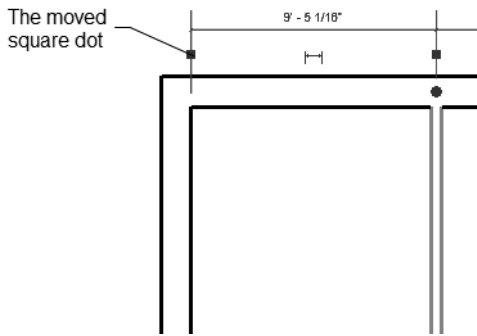
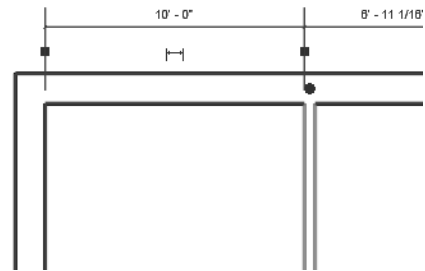

Figure 3-59 The square dot moved
Figure 3-60 The adjusted inner wall distance
- f. Edit the interior walls location to achieve clear internal distances, refer to Figures 3-59 and Figure 3-60.
2. Three blue square dots define the extents of the dimensions. Click on the square dot on the extreme left. The dot and dimension witness line moves to the interior face of the exterior wall, as shown in Figure 3-59.
4. Now, click on the temporary dimension, enter the value **10'0"**, and then, press ENTER. The interior wall is moved to the desired distance 10'0" from the interior face of the exterior wall, as shown in Figure 3-60.